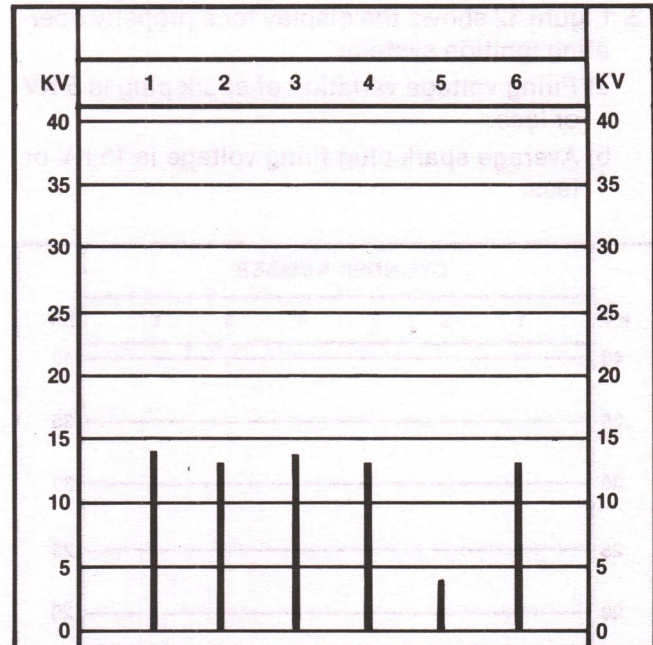

Figure 36. Engine Analyzer Displays—Low Plug Firing Voltage in One Cylinder
7. Consistently low spark plug firing voltage in one or more cylinders (Fig. 36) may indicate: